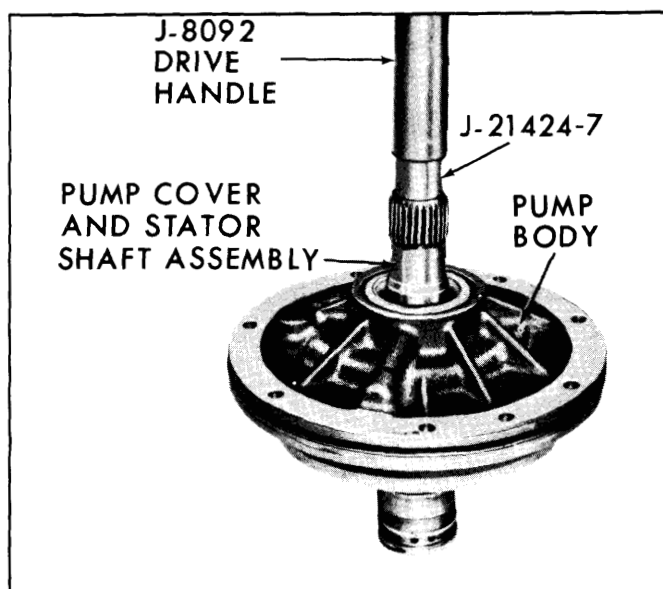

Fig. 7-107—Installing Front Stator Shaft Bushing
Using Tool J-21424-7 and Drive Handle J-8092, install front stator shaft bushing to .250" from front face. (Fig. 7-107)
With stator shaft properly supported, remove front bushing (Fig. 7-107). Place Tool J-21424-7 and drive handle J-8092 with Extension J-21465-13 through front of the stator shaft and drive out rear (2) bushings.